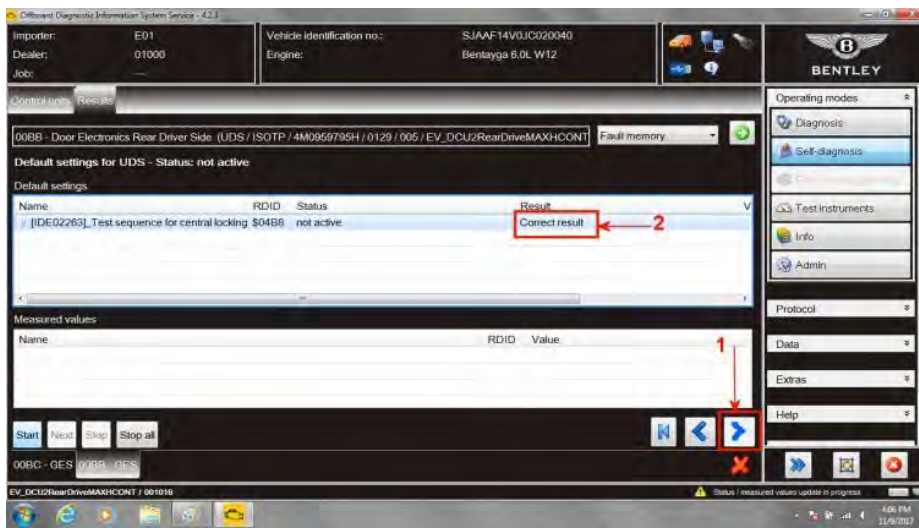

Figure 12
22. Select forward arrow (1) to initiate test. Locking mechanism for that door will sequence once sequenced *Correct result* will be displayed (2) (see Figure 12)